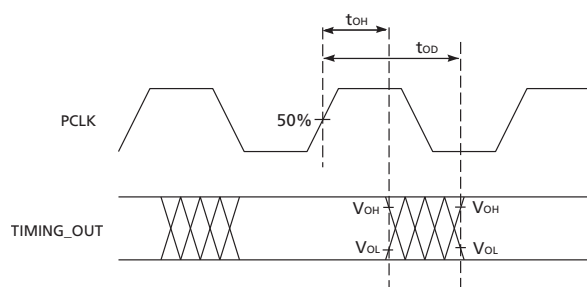

Figure 2-1: PCLK to TIMING_OUT Signal Output Timing
6. With PCLK phasing delay set to nominal (zero offset), each increment of the clock phasing adjustment decreases output hold time and delay time by a nominal 700ps. The times t_{OD} and t_{OH} are defined in Figure 2-1.